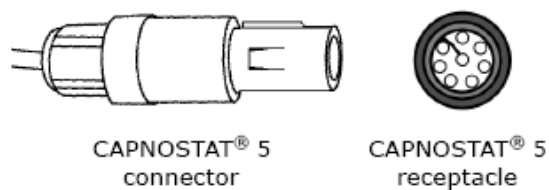

Figure 1
1. Insert the CAPNOSTAT 5 CO2 sensor connector into the receptacle of the host monitor as shown in Figure 1.